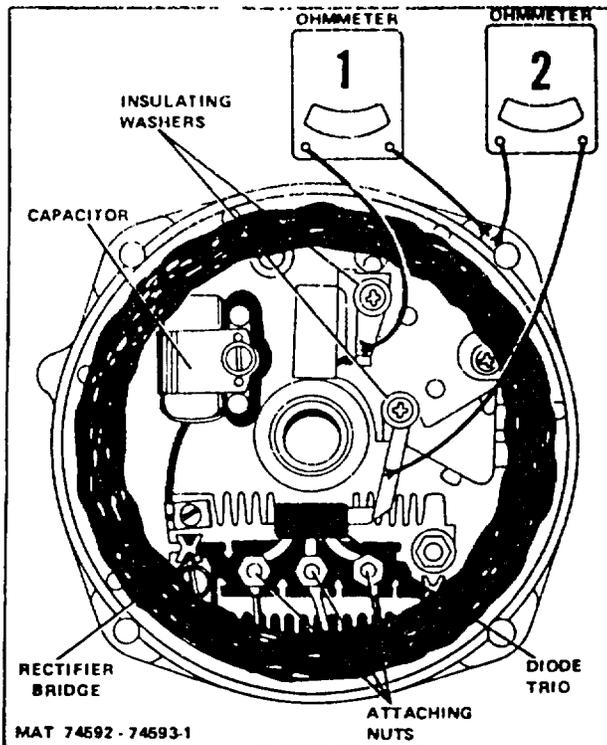
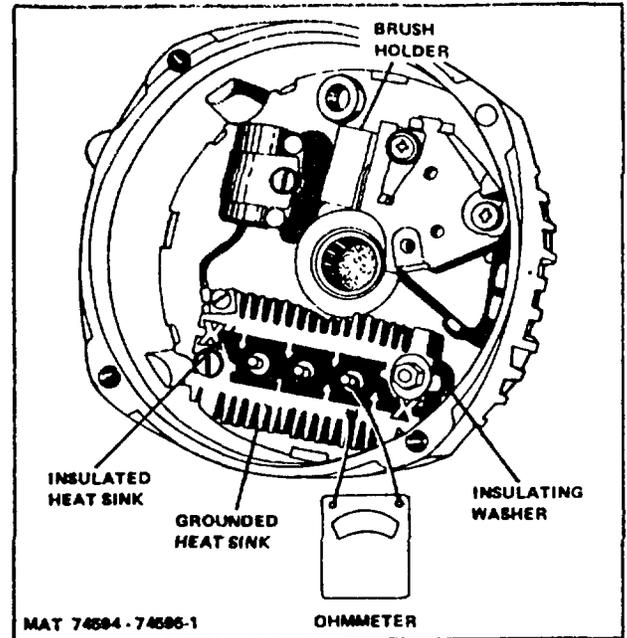
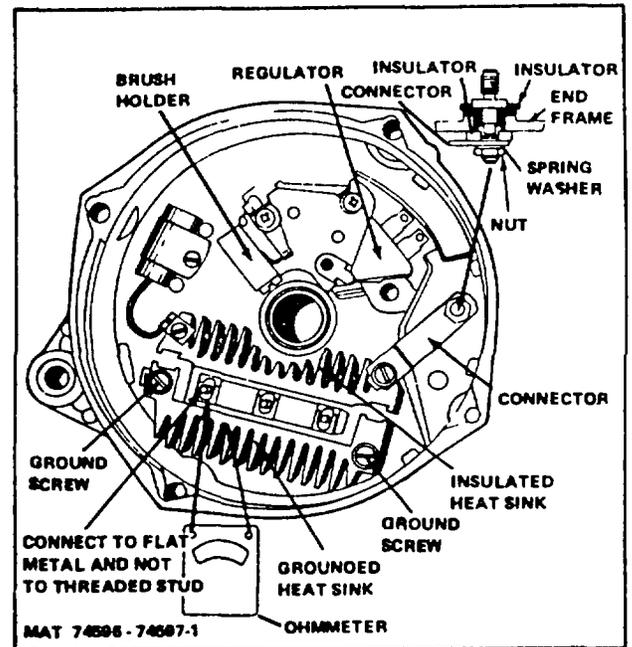

Figure 37. End Frame Assembly, Inside View
Figure 40. Rectifier Bridge Check
Figure 41. Rectifier Bridge Check
- (3) Check field winding for grounds. If grounded replace only the rotor.
- (4) Connect ohmmeter, using lowest range scale, from brush lead clip to end frame as shown in Step 1, Figure 37, then reverse lead connections.
- (5) If both readings are zero, either the brush lead clip is grounded or regulator is defective.
- (6) A grounded brush lead clip can result from omission of insulating washer (Figure 37), omission of insulating sleeve over screw, or damaged insulating sleeve over screw, or damaged insulating sleeve. Remove screw to inspect sleeve. If satisfactory, replace regulator as indicated in Alternator Repair section.
The diode trio is identified in Figure 37. First, connect an ohmmeter, using lowest range scale, from diode trio long connector to end frame as shown in Step 2, Figure 37; then, reverse lead connections. If both readings are the same, check for grounded brush lead clip caused by omission of insulating washer (Fig. 37), omission of insulating sleeve over screw, or damaged insulating sleeve. Remove screw to inspect sleeve. If screw assembly is correct, and both ohmmeter readings are the same, replace regulator.
NOTE: Figures 37 and 39 illustrate two diode trios differing in appearance. Either one of these diode trios may be used in the alternator, since the two are completely interchangeable.
To check the rectifier bridge, connect the ohmmeter to the grounded heat sink and one of the three terminals (Fig. 40). **IMPORTANT:** If rectifier bridge is constructed as shown in Figure 41, connect ohmmeter pressing down very firmly onto flat metal connector, and not onto threaded stud as in Figure 40. Then reverse the lead connections to the grounded heat sink and same terminal. If both readings are the same, replace the rectifier bridge. A good rectifier bridge will give one high and one low reading. Repeat this same test between the grounded heat sink and the other two terminals, and between the insulated heat sink and each of the three terminals. This makes a total of six checks, with two readings taken for each check. The ohmmeter check of the rectifier bridge, and of the diode trio as previously covered, is a valid and accurate check. **DO NOT** replace either unit unless at least one pair of readings is the same.
To replace the rectifier bridge, remove the attaching screws, and disconnect the capacitor lead. Note the insulator between the insulated heat sink and end frame (Fig. 40). Rectifier bridges may vary in appearance but are completely interchangeable in these generators.
After removing the three attaching nuts, the stator, and diode trio screw (Figs. 40 and 41), the brush holder and regulator may be replaced by removing the two remaining screws. Note the two insulators located over the top of the brush clips in Figure 37; these two screws have special insulating sleeves over the screw body above the threads. The third mounting screw may or may not have an insulating sleeve. If not, this screw must not be interchanged with either one of the other two screws, as a ground may result, causing no output or uncontrolled generator output. Regulators may vary in appearance but are completely interchangeable.